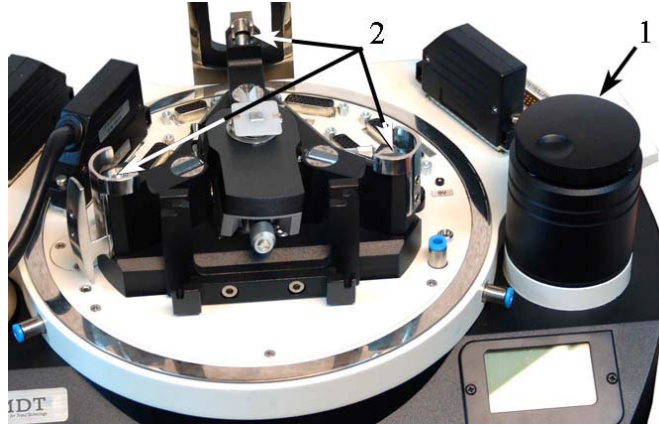

Fig. 10-20
1. Rotate the manual approach knob clockwise until the scanner comes to its lowest position (pos. 1 on Fig. 10-20). This will secure the probe and the sample during installation of the measuring head.